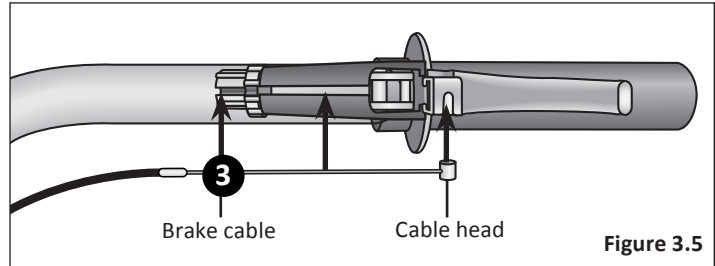

Figure 3.5
- 3** Bring the brake cable from the stem over the handlebar and slide the brake cable through the slots and place the cable head into the brake lever. **Figure 3.5**